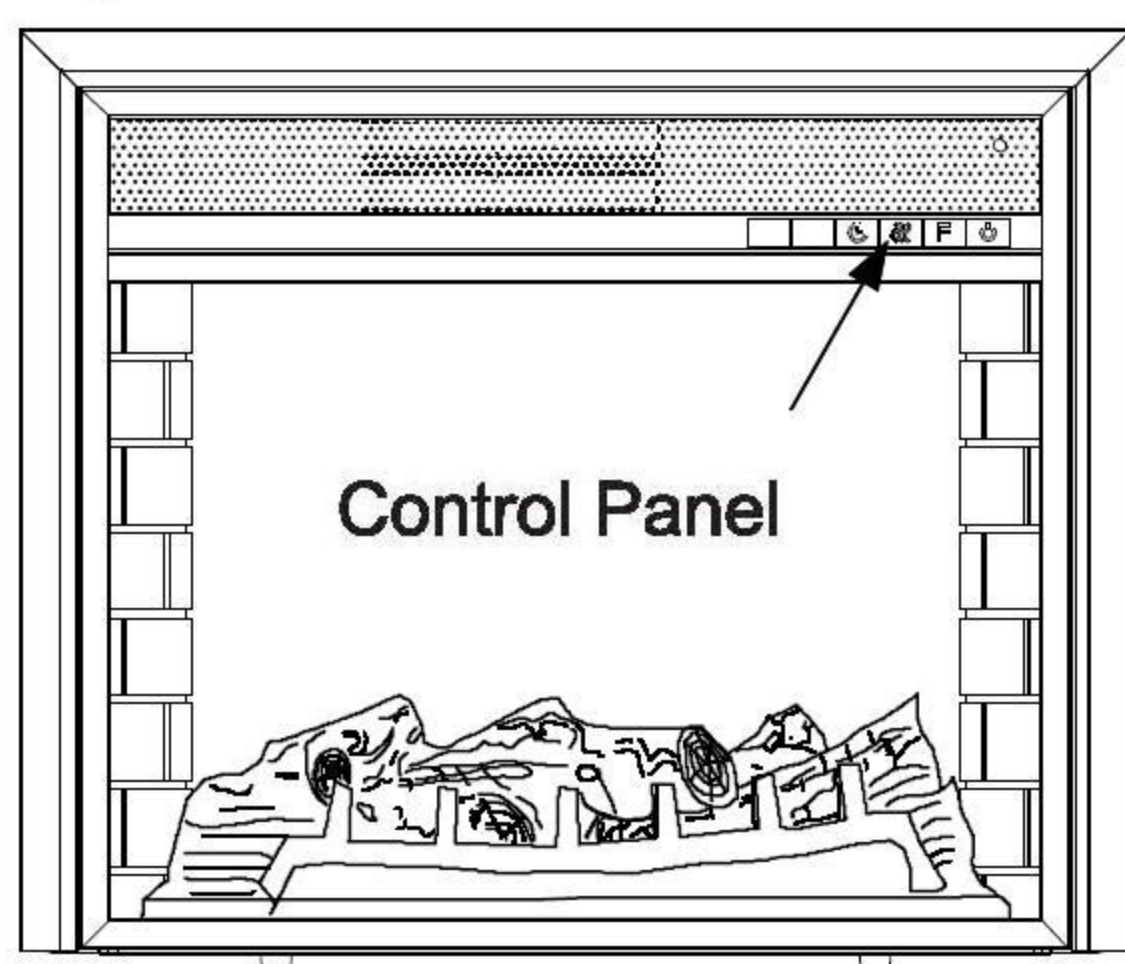

Figure 4
1. Using the touchpad control panel, located on the upper right-hand of the fireplace(Figure 4)